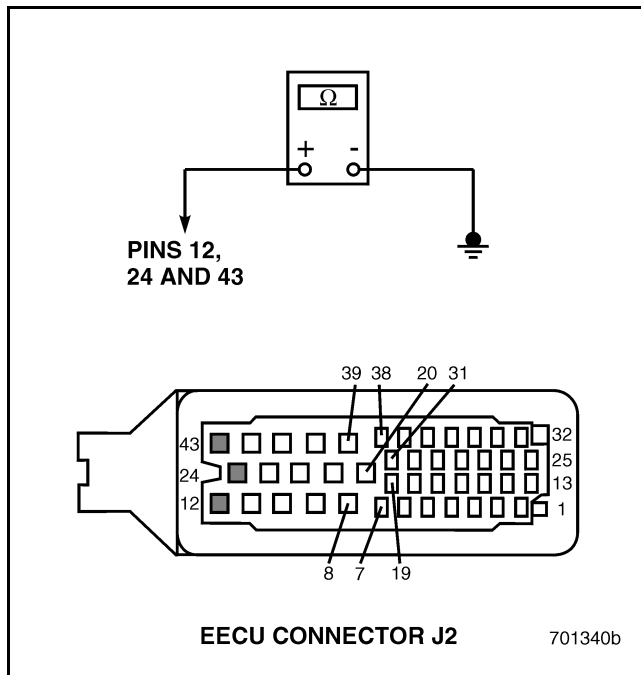

Figure 724
3. Check for continuity between EECU connector J2 pins 12, 24 and 43 versus a good ground (see Figure 724).